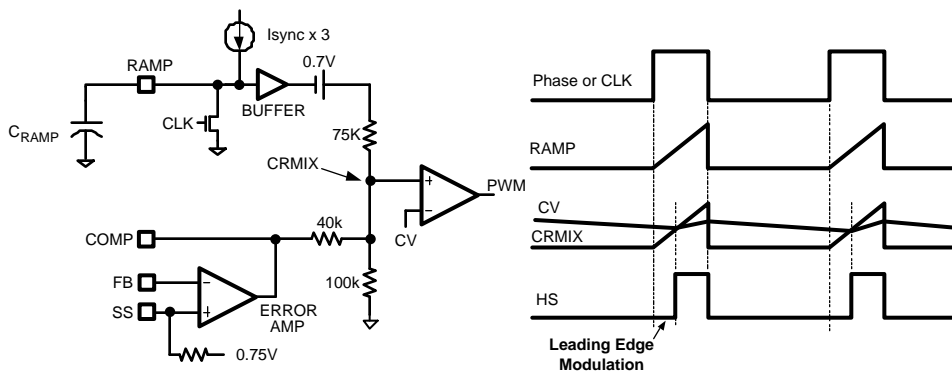
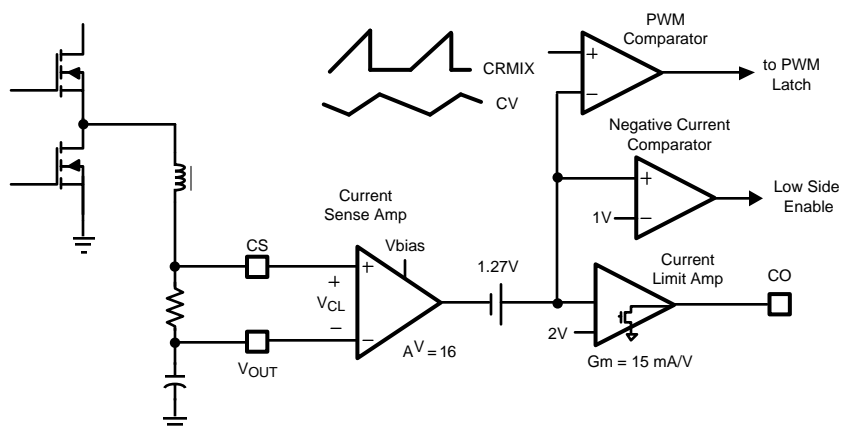

Figure 13. Synchronization and Leading Edge Modulation
Figure 15. Current Sensing and Limiting
Unlike conventional voltage mode controllers, the LM25115 implements leading edge pulse width modulation. A current source equal to 3 times the I_{SYNC} current is used to charge the capacitor connected to the RAMP pin as shown in Figure 13. The ramp signal and the output of the error amplifier (COMP) are combined through a resistor network to produce a voltage ramp with variable dc offset (CRMIX in Figure 13). The high side MOSFET which drives the HS pin is held in the off state at the beginning of the phase signal. When the voltage of CRMIX exceeds the internal threshold voltage CV, the PWM comparator turns on the high side MOSFET. The HS pin rises and the MOSFET delivers current from the main converter phase signal to the output of the auxiliary regulator. The PWM cycle ends when the phase signal falls and power is no longer supplied to the drain of the high side MOSFET.
The LM25115 controller uniquely combines elements and benefits of current mode control in a voltage mode PWM controller. The current sense amplifier shown in Figure 15 monitors the inductor current as it flows through a sense resistor connected between CS and VOUT. The voltage gain of the sense amplifier is nominally equal to 16. The current sense output signal is shifted by 1.27V to produce the internal CV reference signal. The CV signal is applied to the negative input of the PWM comparator and compared to CRMIX as illustrated in Figure 13. Thus the PWM threshold of the voltage mode controller (CV) varies with the instantaneous inductor current. Insure that the Vbias voltage is at least 3V above the regulated output voltage (VOUT).
Current limiting is implemented through the current sense amplifier as illustrated in Figure 15. The current sense amplifier monitors the inductor current that flows through a sense resistor connected between CS and VOUT. The voltage gain of the current sense amplifier is nominally equal to 16. The output of current sense amplifier is level shifted by 1.27V to produce the internal CV reference signal. The CV signal drives a current limit amplifier with nominal transconductance of 16mA/V. The current limit amplifier has an open drain (sink only) output stage and its output pin, CO is typically connected to the COMP pin. During normal operation, the voltage error amplifier controls the COMP pin voltage which adjusts the PWM duty cycle by varying the internal CRMIX level (Figure 13). However, when the current sense input voltage V_{CL} exceeds 45mV, the current limit amplifier pulls down on COMP through the CO pin. Pulling COMP low reduces the CRMIX signal below the CV signal level. When CRMIX does not exceed the CV signal, the PWM comparator inhibits output pulses until the CRMIX signal increases to a normal operating level.
When inductor current flows from the regulator output through the low side MOSFET, the input to the current sense comparator becomes negative. The intent of the negative current comparator is to protect the low-side MOSFET from excessive currents. Negative current can lead to large negative voltage spikes on the output at turn off which can damage circuitry powered by the output. The negative current comparator threshold is sufficiently negative to allow inductor current to reverse at no load or light load conditions. It is not intended to support discontinuous conduction mode with diode emulation by the low-side MOSFET. The negative current comparator illustrated in Figure 15 monitors the CV signal and compares this signal to a fixed 1V threshold. This corresponds to a negative V_{CL} voltage between CS and VOUT of -17mV. The negative current limit comparator turns off the low-side MOSFET for the remainder of the cycle when the V_{CL} input falls below this threshold.
Both drivers are controlled by the PWM logic signal from the PWM latch. When the phase signal is low, the outputs are held in the reset state with the low-side MOSFET on and the high-side MOSFET off. When the phase signal switches to the high state, the PWM latch reset signal is de-asserted. The high-side MOSFET remains off until the PWM latch is set by the PWM comparator ($CRMIX > CV$ as shown in Figure 13). When the PWM latch is set, the LO driver turns off the low-side MOSFET and the HO driver turns on the high-side MOSFET. The high-side pulse is terminated when the phase signal falls and the SYNC input comparator resets the PWM latch.